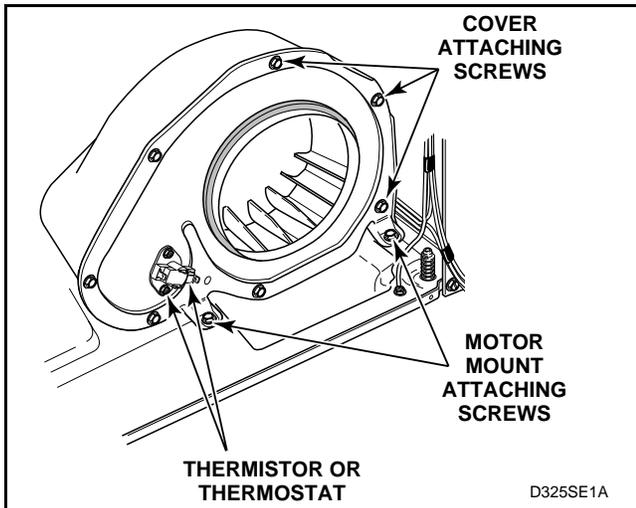

Figure 19
- Remove two screws holding motor mounting bracket to dryer base. See *Figure 19*.
- (1.) Remove screws holding cover to housing. See *Figure 19*.